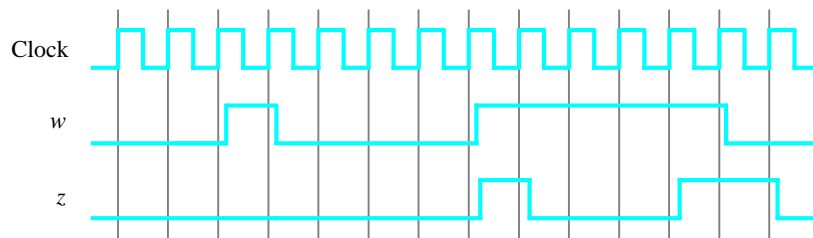

Figure 1. Required timing for the output z .
We wish to implement a finite state machine (FSM) that recognizes two specific sequences of applied input symbols, namely four consecutive 1s or four consecutive 0s. There is an input w and an output z . Whenever $w = 1$ or $w = 0$ for four consecutive clock pulses the value of z has to be 1; otherwise, $z = 0$. Overlapping sequences are allowed, so that if $w = 1$ for five consecutive clock pulses the output z will be equal to 1 after the fourth and fifth pulses. Figure 1 illustrates the required relationship between w and z .
5. Simulate the behavior of your circuit using ModelSim. Replicate Figure 1 using ModelSim's wave output.